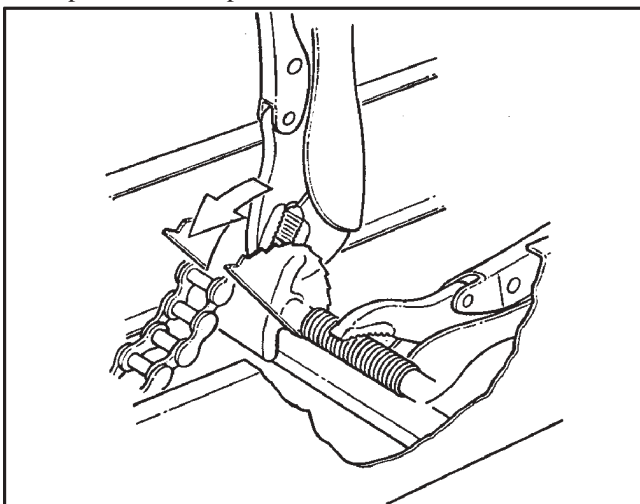

Figure 7-13 Prying the Slider Block off the Cam Assembly
3. With pliers, pry the slider block off the cam assembly as illustrated in Figure 7-13.